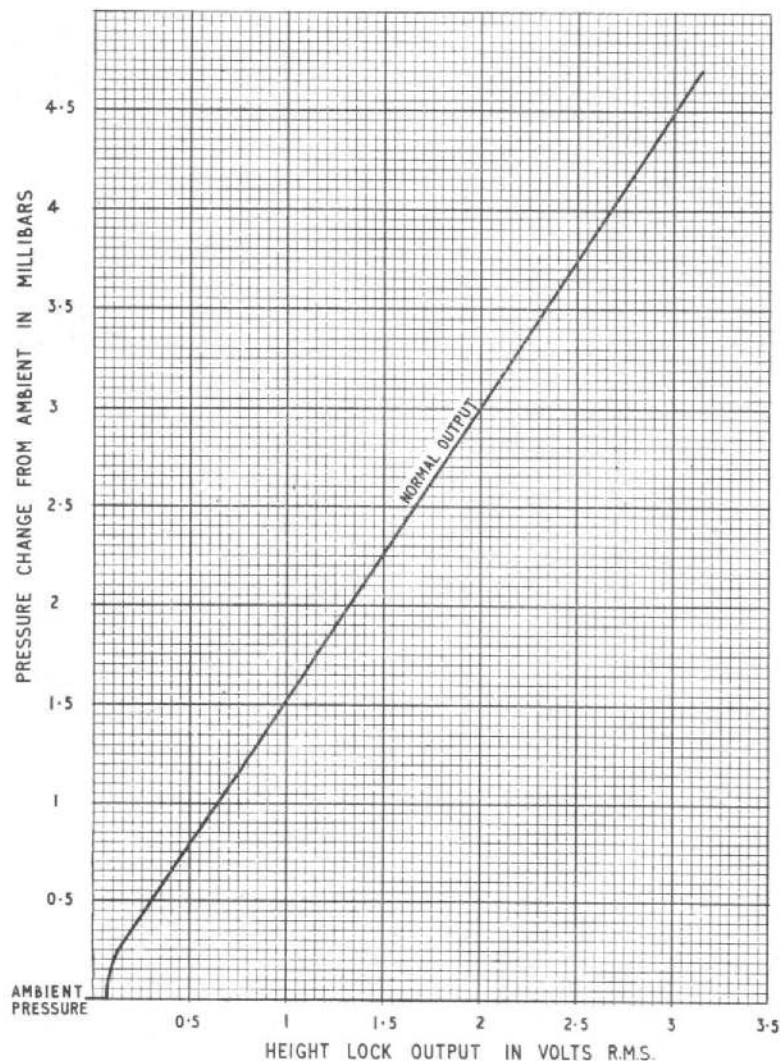

Fig. 4. Height lock transducer, Type A — output graph
(6) Allow 3 minutes for the transducer to warm up.
(7) Set S1 to the on position.
(8) The readings on the valve voltmeter and the mutimeter should be the same as those obtained in para. 13, sub-para. (5).
(9) Range the transducer in steps of 0.5mb over the range of  $\pm 4.5$  mb from the ambient pressure, by increasing or decreasing the barometer reading. Press the operating button and adjust the slyphon bellows until the barometer indicates that the new pressure is correctly set.
(10) Plot the readings obtained on the graph shown in fig. 4. The slope of the graph of the readings should be not less than that of the nominal readings and should be linear within 20%.
15. (1) Connect the test set terminals marked OSCILLOSCOPE to one beam of a twin beam oscilloscope.